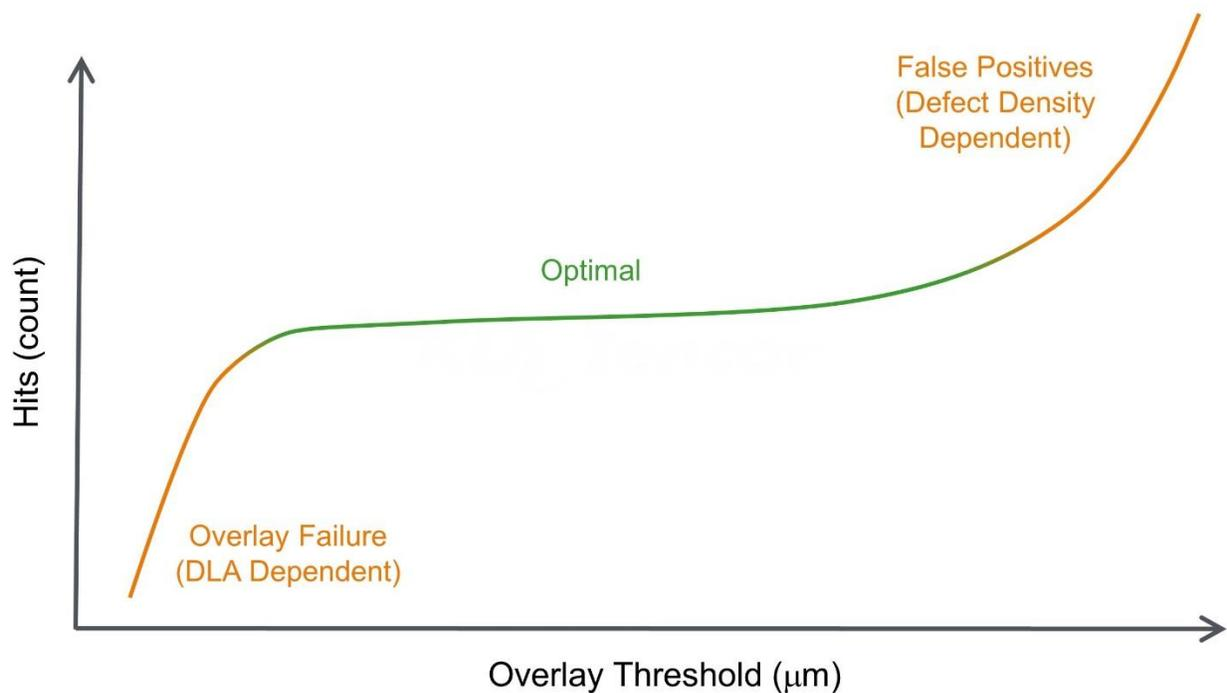

Figure 2. The threshold used to overlay EOL electrical chains to inline defects must be optimized to avoid failures or false positives.
- The overlay distance allowed to label a chain-to-defect distance a “hit” must be large enough to allow for inspection tool defect location accuracy (DLA) but small enough that the statistical probability of false-positives is low; see Figure 2